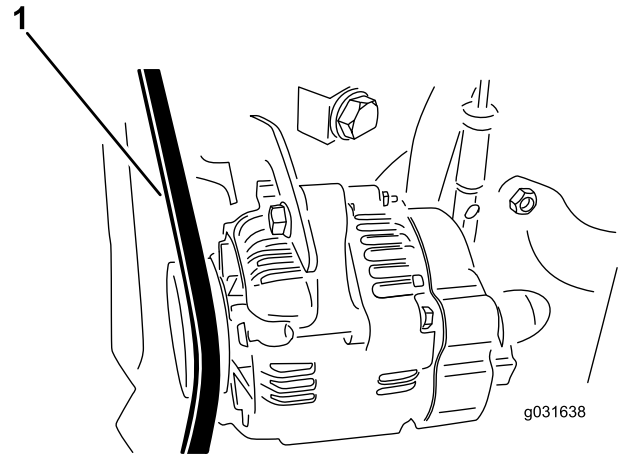

Figure 71
4. Apply 30 N (22 in-lb) of force to the alternator belt, midway between the pulleys (Figure 71).